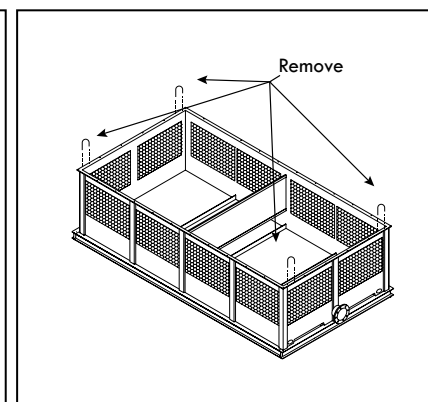

Figure A-48: Removing U-bolts from basin section of an RTG and RTGTC model.
- I. After the basin has been set in place, remove the U-bolts located on the flange before installing the next section (see Figure A-48).